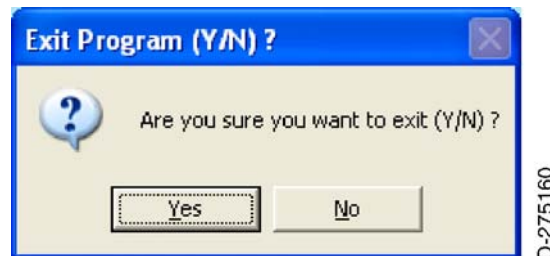

Figure 16. (Sheet 1 of 1) Exit Program (Y/N)? Window
- (18) Click the EXIT button on the ADAHRS Loader program and the window shown in Figure 16 will be displayed.